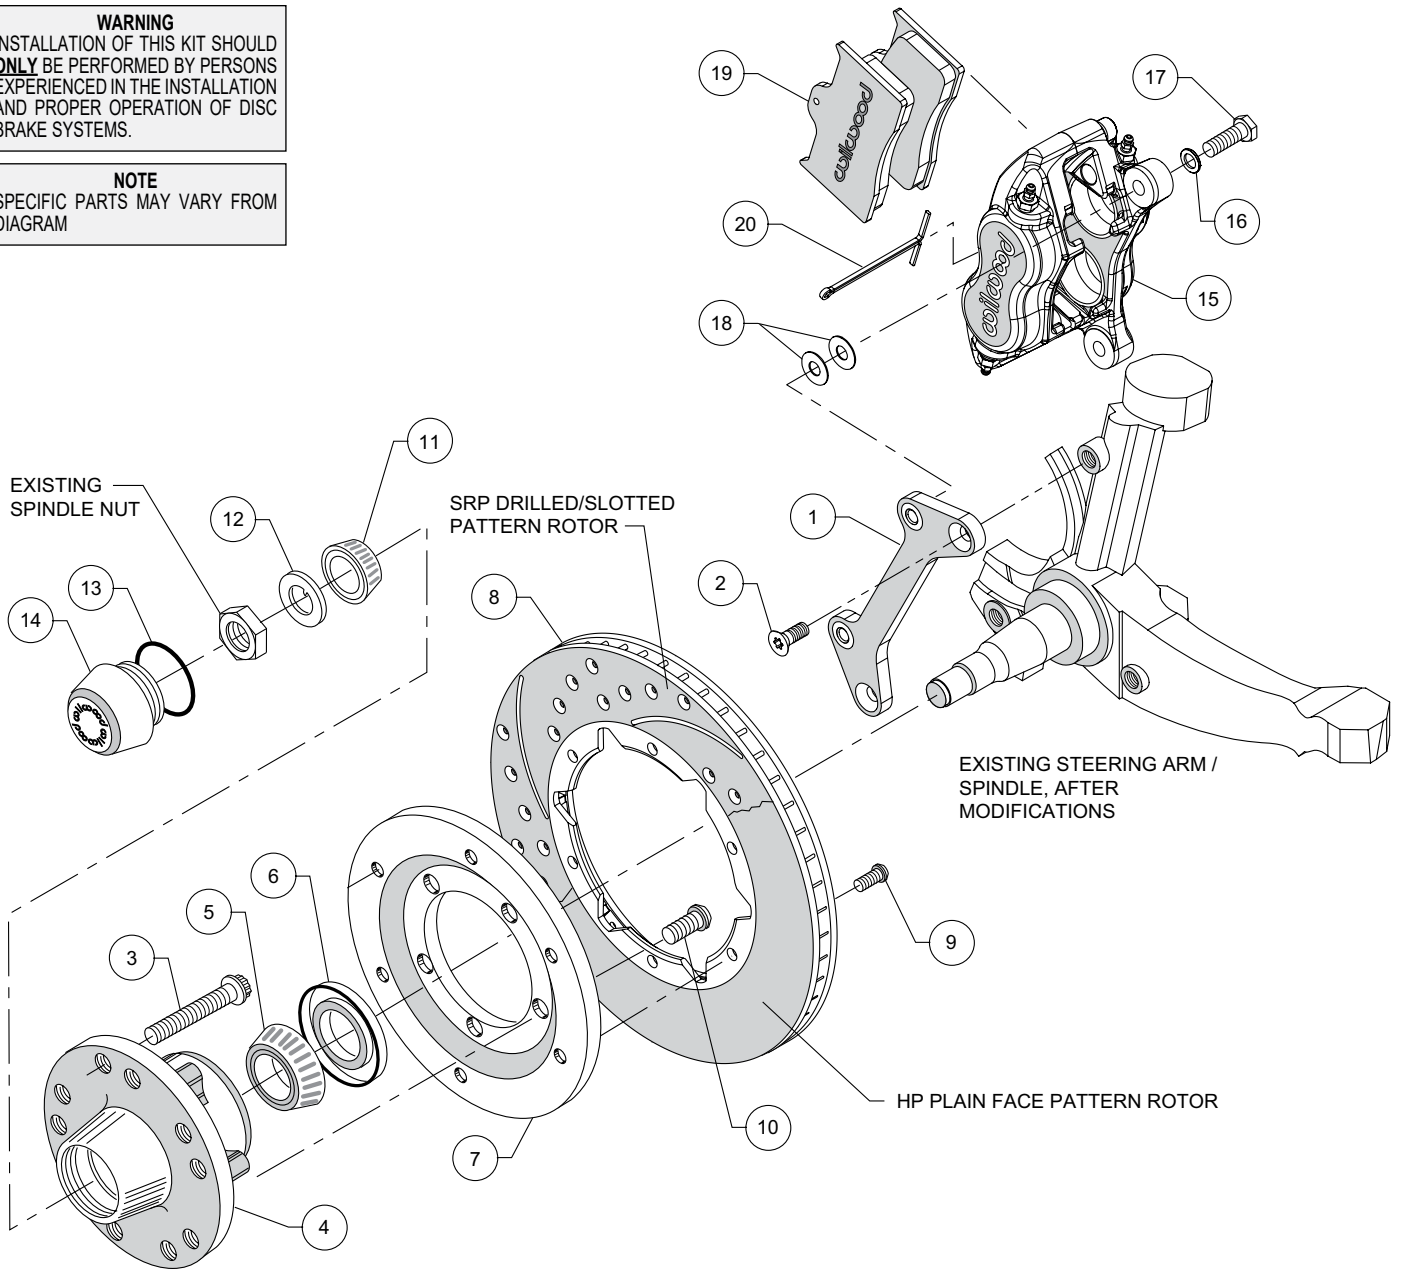
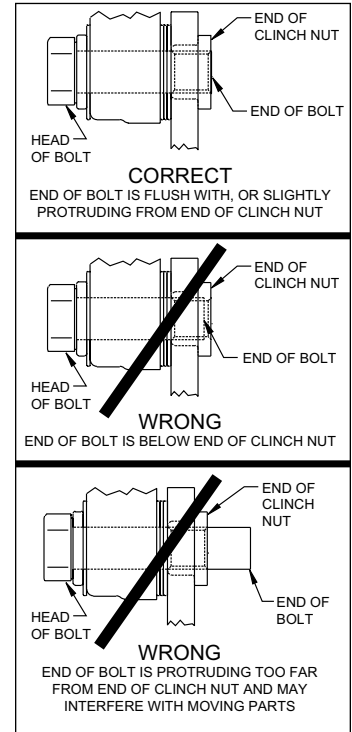

Figure 2. Typical Installation Configuration
Figure 4. Clinch Nut Engagement Diagram
**NOTE:** Numbers in parenthesis refer to the parts list and Figure 2 on the preceding pages.
**CAUTION:** All mounting bolts must fully engage clinch nuts. Be sure to check that all bolts are either flush or protruding through flanged side of clinch nut after shimming, Figure 4.
•Align caliper mounting bracket (1) with the corresponding holes, to the face of the spindle. Attach using bolts (2) as shown in Figure 2 and Photo 1. Temporarily tighten the mounting bolts. Ensure that the flanged heads of the clinch nuts in the bracket are facing outboard, Photo 1. **NOTE:** The bracket must fit squarely against the mounting points on the spindle. Inspect for interference from casting irregularities, machining ridges, burrs, etc. Remove bolts one at a time, apply red *Loctite*® 271 to threads and torque to 40 ft-lbs.
•Install wheel studs (3) into the hub (4), Photo 2. Torque to 77 ft-lb. **NOTE:** There are two five lug patterns in the hub (5 x 4.50 and 5 x 4.75). Ensure the correct hub stud pattern is being used to fit the wheel application.
•Pack the large inner bearing cone (5) with high temperature disc brake bearing grease (available from your local auto parts store) and install into the backside of the hub (4), Photo 3.
- Install the grease seal (6) by pressing into the backside of the hub (4), flush with the end of the hub, Photo 3.
- Orient the rotor (8) and the rotor adapter (7) as shown in Figure 2 and Photo 4. Attach the rotor to the adapter using bolts (9). Apply red *Loctite*® 271 to the bolt threads and torque to 25 ft-lb using a criss-cross pattern.
- Mount the adapter/rotor assembly (7/8) to the hub (4) using bolts (10), as shown in Figure 2 and Photo 5. Apply red *Loctite*® 271 to the bolt threads and torque to 45 ft-lb using a criss-cross pattern.
- Pack the small outer bearing cone (11) with high temperature disc brake bearing grease and install into hub (4). Slide the hub/rotor assembly onto the spindle. Secure using spindle washer (12) and OEM spindle nut, Photo 6. Adjust bearings per OEM specifications. Install saved OEM nut lock (if any) and a new cotter pin (not included).
- Screw dust cap (14) into hub (4), Photo 7. Friction created by the o-ring (13) on the dust cap keeps it from unscrewing. **NOTE:** *The O.D. of the existing OEM spindle washer may be larger than the I.D. of the dust cap not allowing it to seat against the hub face. Therefore, use the spindle washer (12) supplied with the kit instead of the OEM washer.*
- **NOTE:** *Please reference the caution statement at the beginning of the assembly instructions.* Mount the caliper (15) onto the caliper mounting bracket (1) using bolts (17) and washers (16), as shown in Figure 2. Initially place two .035" thick shims (18) on each bolt between the caliper and the bracket, Photo 8. Temporarily tighten the mounting bolts and view the rotor (8) through the top opening of the caliper. The rotor should be centered in the caliper, Photo 9. If not, adjust by adding or subtracting shims between the bracket and the caliper. Always use the same amount of shims on each of the two mounting bolts. **NOTE:** *The end of each bolt must be flush with or slightly protruding from the head of the clinch nut, as shown in Figure 4.* If necessary place spare shims between washer (16) and caliper mounting ear to achieve the proper clinch nut engagement. Once the caliper alignment and clinch nut engagement are correct, remove the bolts one at a time, apply red *Loctite*® 271 to bolt threads, and torque to 40 ft-lb.
- Install the disc brake pads (19) into the caliper, with the friction material facing the rotor (8), and secure in place using cotter pin (20), Photo 10.